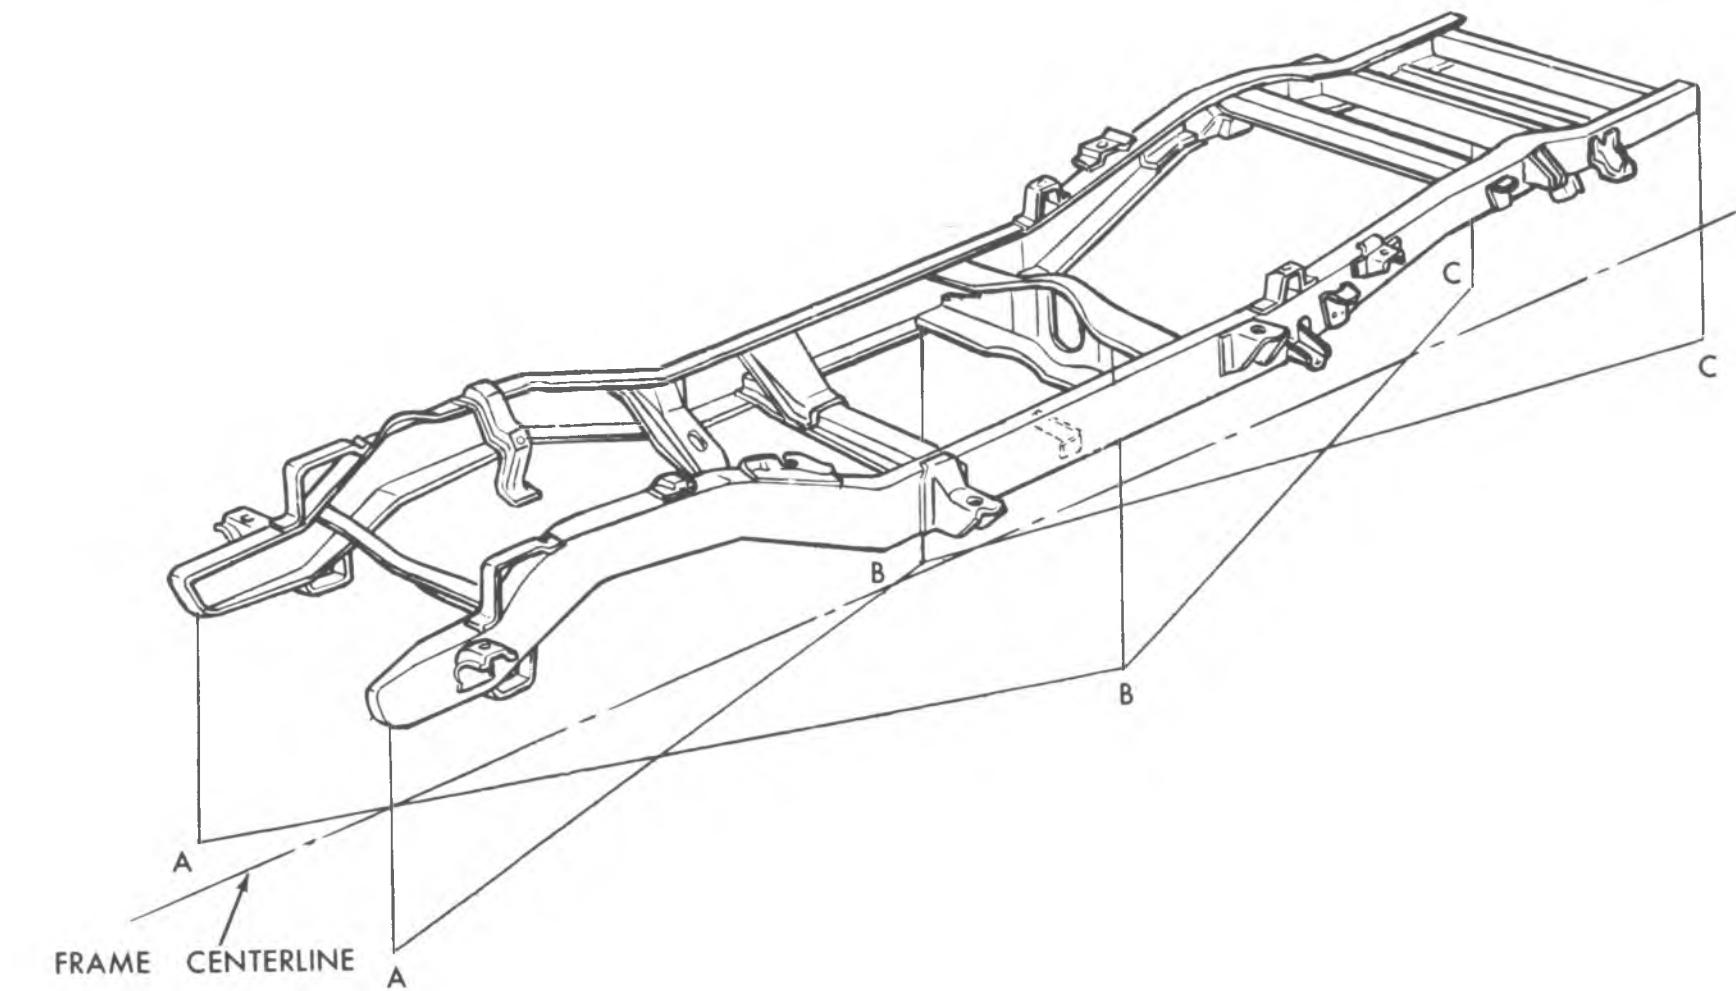

Fig. 2-Frame Horizontal Checking - Typical
Horizontal frame checking can be made with trammimg gauges applied directly to the frame or by transferring selected points of measurement from the frame to the floor by means of a plum bob and using the floor layout for measuring. Figure 2 may be used as a general guide in the selection of checking points; however, selection of these points is arbitrary depending on accessibility and convenience. An important point to remember is that for each point selected on one side of the frame, a corresponding point on the opposite side of the frame
3. If a tram bar is used, for horizontal alignment "X" - check from opposite and alternate reference points AA, BB and CC, as illustrated by the lines in Figure 2. Error will result if a tram bar is not level and centered at the reference points.